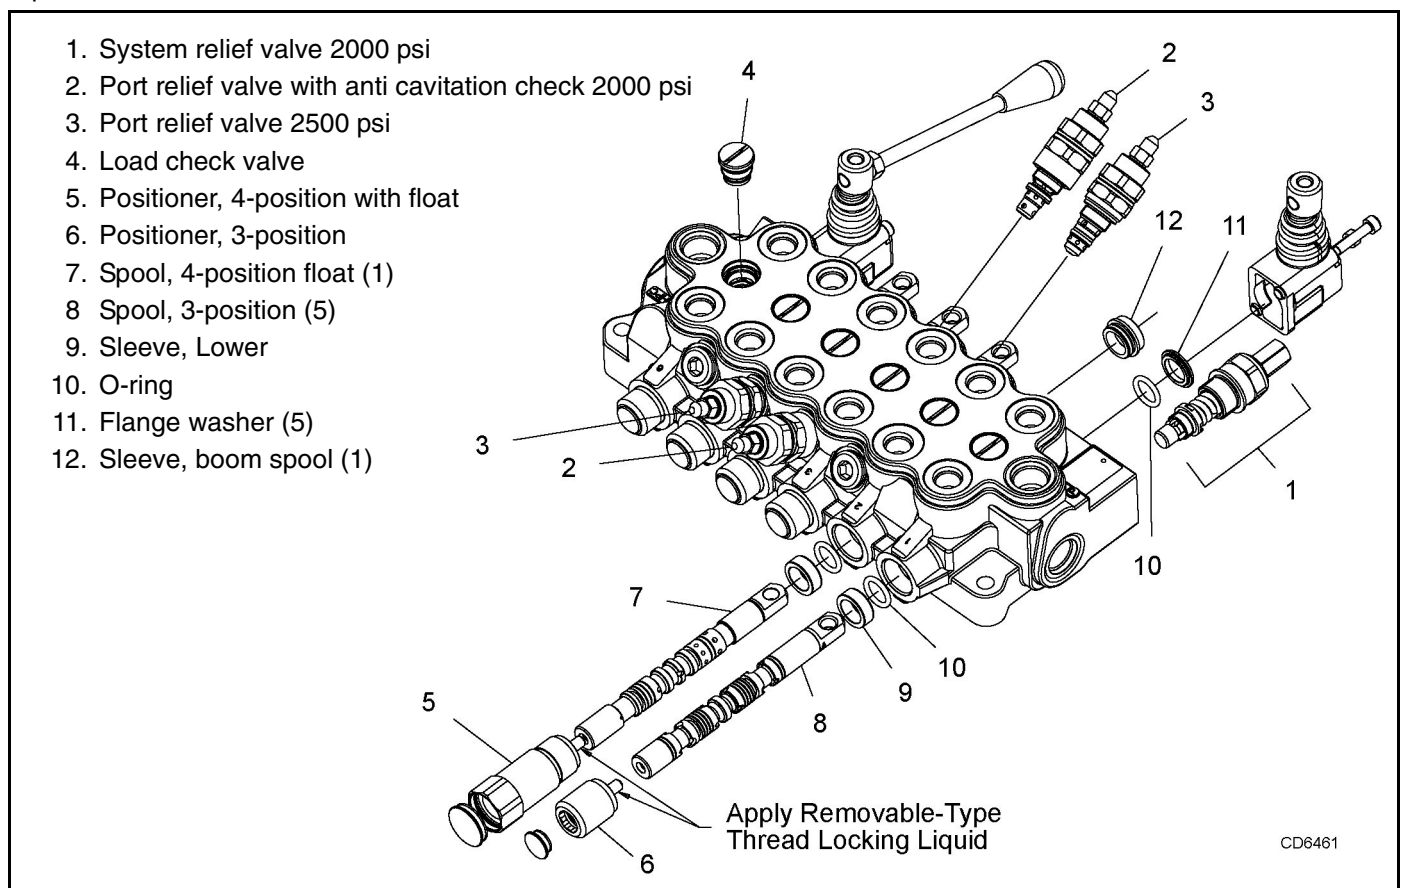

Figure 17. Control Valve Assembly
Refer to Figure 17.
To adjust relief valve setting, place a 3000 psi pressure gauge in the line attached to the valve inlet (IN) port. Remove cap from top of main relief (1, Figure 17). Turn adjusting screw clockwise to increase pressure and counter clockwise to decrease pressure. Start tractor and set throttle for full engine speed. Move right stabilizer control lever to raise stabilizer to transport position and hold the lever so full pressure builds. Adjust screw to attain 2000 psi. Shut off tractor and replace cap.